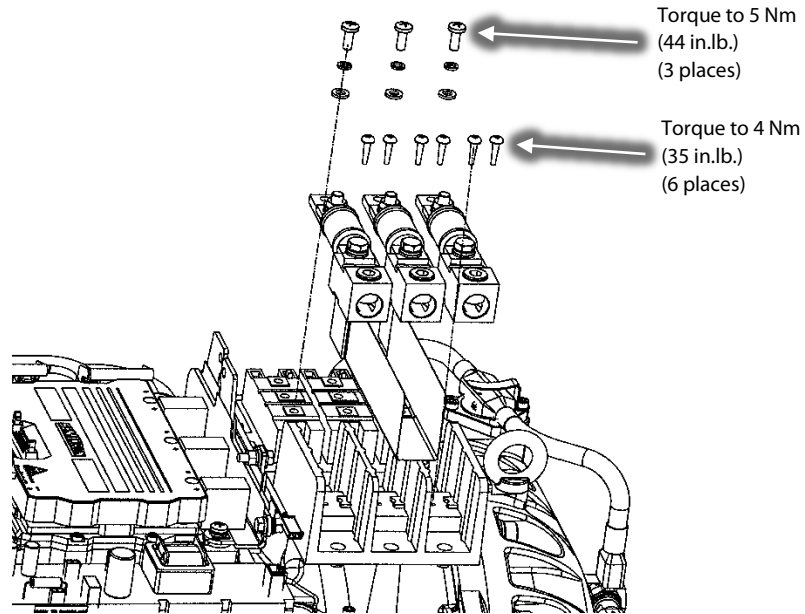

Figure 29 – Fuse Assembly Installation
26. Reinstall the Mylar in the middle of the Terminal Block. Refer to Figure 29 (Main Power Mylar Insertion).